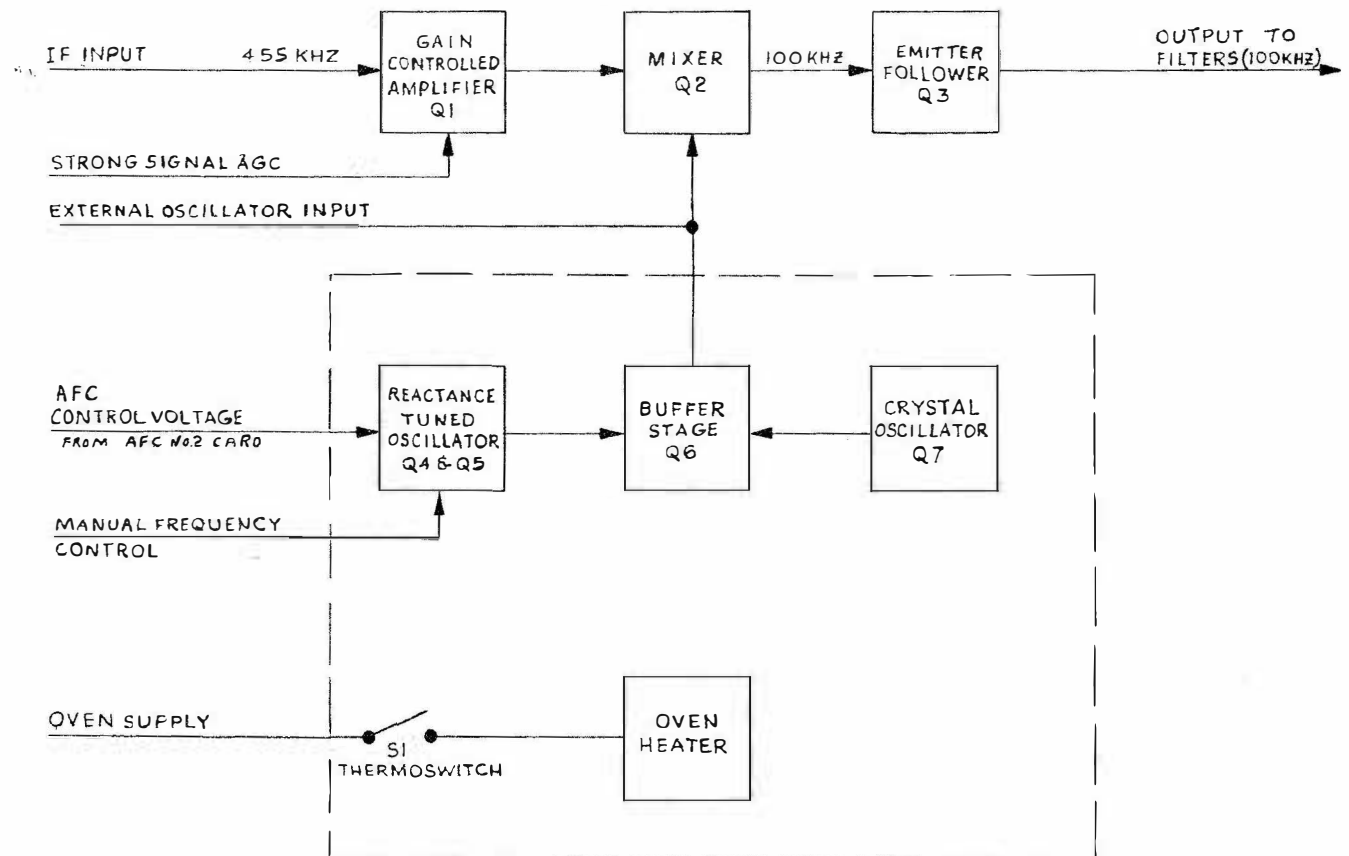

Figure 4-2. IF Card Block Diagram
a. IF CARD (See Figure 4-2). - The 455 kHz input signal is applied to a gain controlled amplifier whose gain is controlled by a strong signal AGC voltage. The amplified 455 kHz signal is applied to a mixer stage where it is mixed with the output of either a reactance tuned oscillator (RTO), a crystal controlled oscillator, or an externally supplied signal as selected by switches S7 and S8. The 100 kHz output of the mixer is then applied to an emitter follower which allows proper termination of the filters that follow the IF card. The RTO is controlled by the AFC signal output of AFC No. 2 card to maintain 100 kHz output of mixer Q2. Q6 is a buffer stage between either internal oscillator (whichever is running) and the mixer transistor. The oven heater maintains a fixed temperature for the internal oscillators.